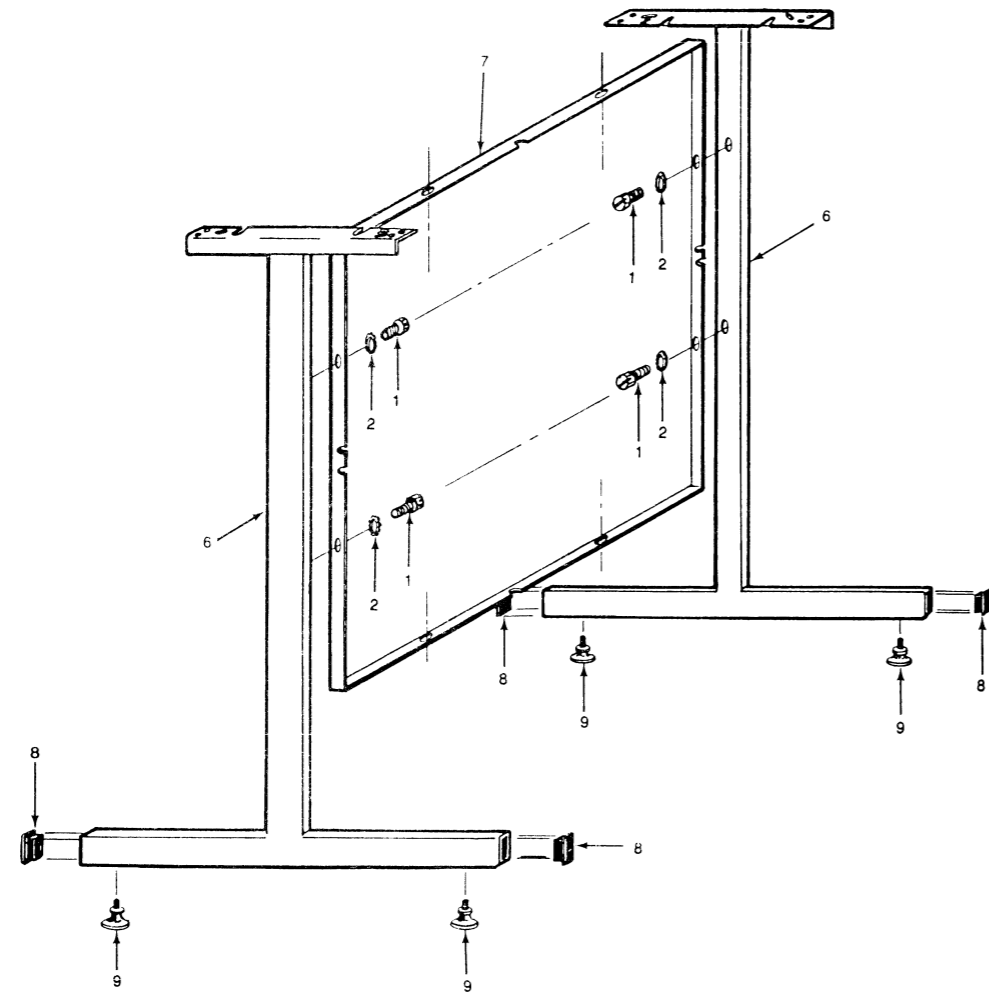

FIGURE 1
Referring to figure 1, assemble items 8 and 9 into item 6. Attach central panel (item 7) to side pieces (item 6) using 4 each of items 1 & 2 (as shown in figure 1). Central panel should have **single** notch side facing upward. Do not completely tighten the upper right hand 1/4-20 screw (item 1) until after ground straps have been attached.